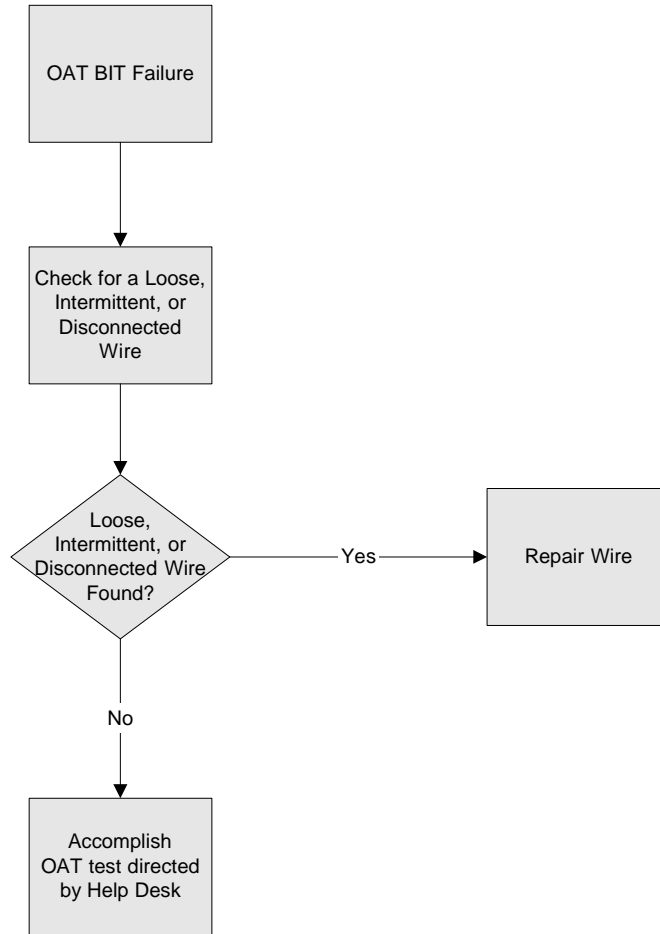

Figure 20: OAT BIT Failure Troubleshooting
- a. Bit Failure - Refer to Figure 20.